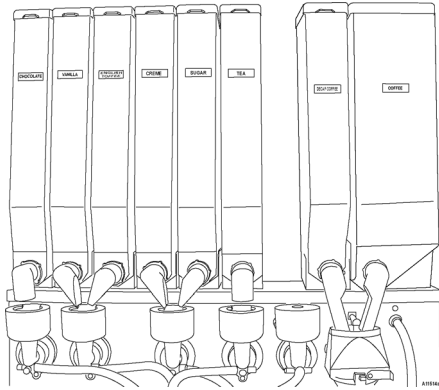
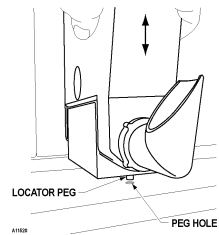
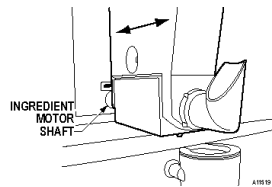

Figure 5a. Canister Lineup
Figure 5c. Locator Peg
Figure 5d. Motor Shaft
4. When filling the canisters, hold the top and bottom of the canister and slowly lift it up so that the locator peg clears the peg hole. **Figure 5c.** Slide the canister forward until it is out of the ingredient motor shaft. **Figure 5d.**
10. Review the canister arrangement as shown in **Figure 5a.** Hold the canister carefully at the bottom and top to prevent spilling. Gently place the filled canister back on the product shelf. **Figure 5d.**
11. Line up the hollow shaft in the back of the canister with the ingredient motor shaft. See **Figure 5d.**
12. Slowly slide the canister toward and over motor shaft until locator peg falls inside the hole on the product shelf. See **Figure 5c.**